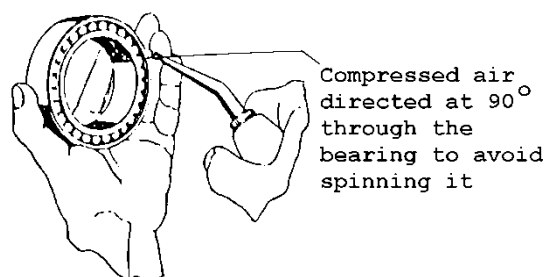

FIG. 16
- Hold the bearing assembly to prevent it from rotating and dry it with compressed air. Refer to Fig. 16